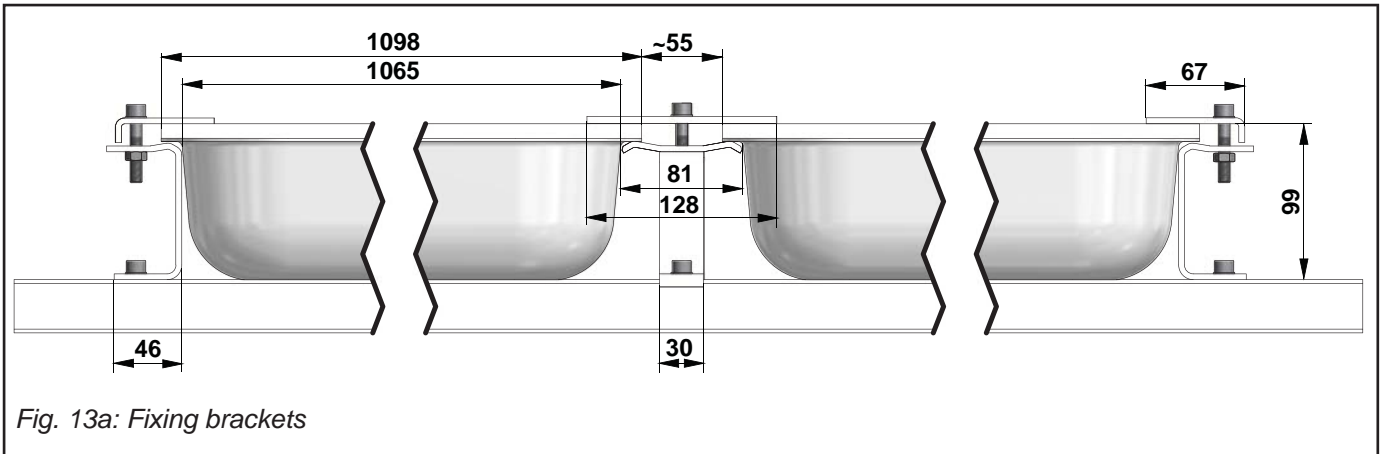

Fig. 13a: Fixing brackets
- Insert nuts into both the rails (Fig. 13a). Put the side brackets (standing) on the rails and fix them using M8×14 bolts. Then fix the collector from the top, using the side brackets (fixing) and M8×45 bolts.